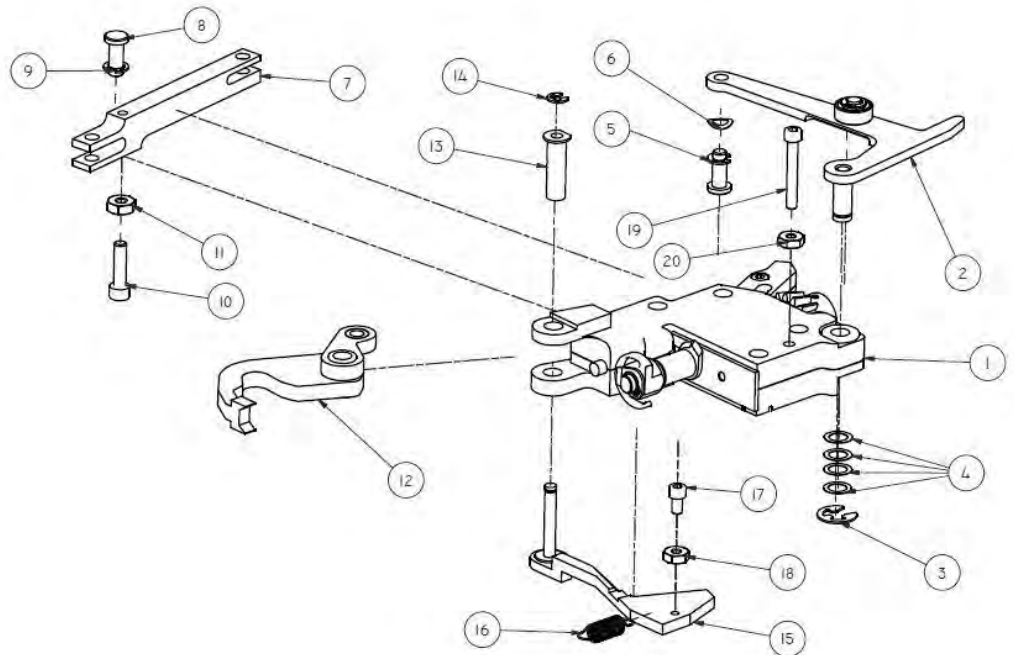
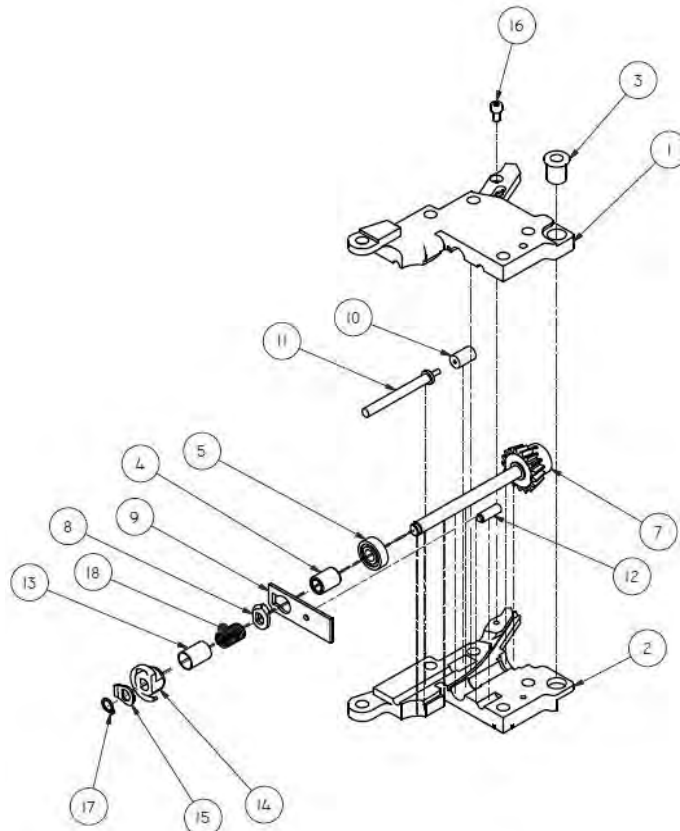

Figure 6.4.2 Linkage Removal from Pinion Block
Figure 6.4.3 Pinion Block Assembly
4.1. To remove, see Pinion Block Assembly (Reference Figure 6.4.3)
(Reference Figure 6.4.1, Figure 6.4.2 & Figure 6.4.3)
## Linkages (Reference Figure 6.4.2)
## Pinion Block Assembly (Reference Figure 6.4.3)